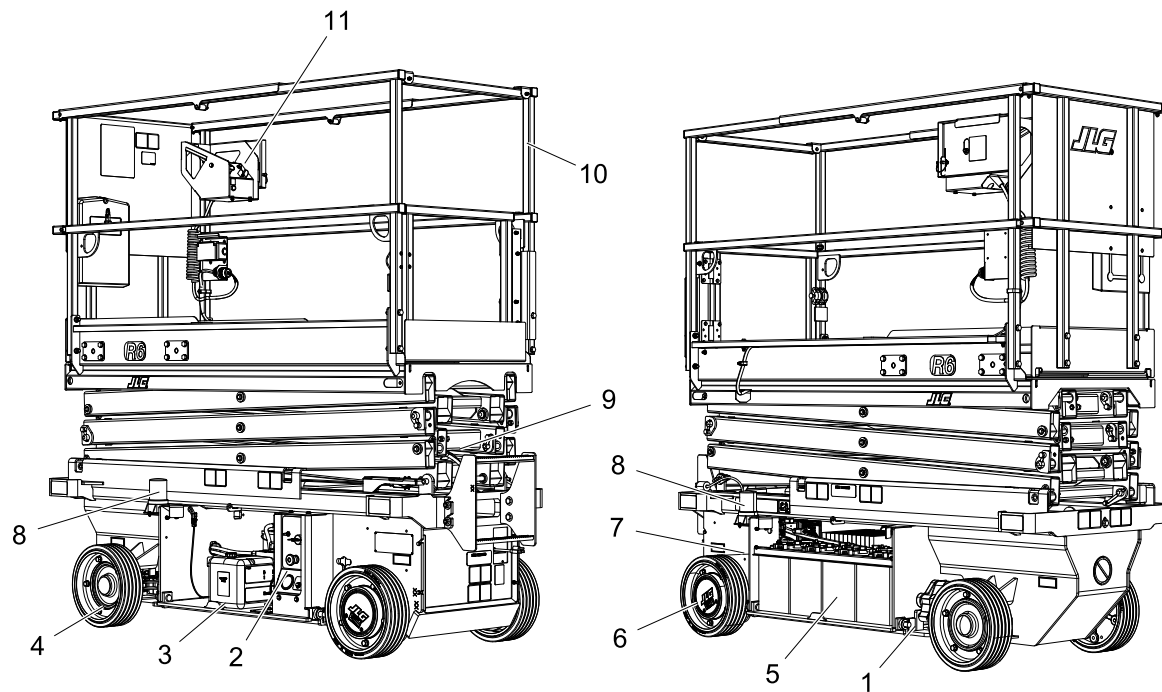

Figure 2-1. R6 - Daily Walk-Around Inspection (Side Covers Removed)
Begin the “Walk-Around Inspection” at item 1, see Figure 2-1. and Figure 2-2. Continue checking each item in sequence for the conditions listed in the following checklist.